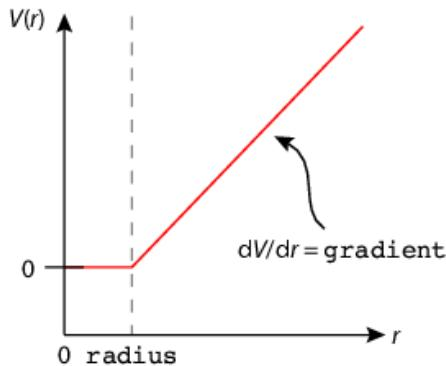

Figure 12: Radial profile of spherical potential.
- 1 First, we will examine the script used to write the grid files. Navigate to the directory `forces-tutorial-files/gridForceFiles/ions-grid`, and open the file `sphere.tcl`. This script constructs a DX file of a grid representing a spherically symmetric potential that is flat within a cutoff radius and increases linearly beyond it, see Fig. 12. The first few lines set the parameters of the potential: